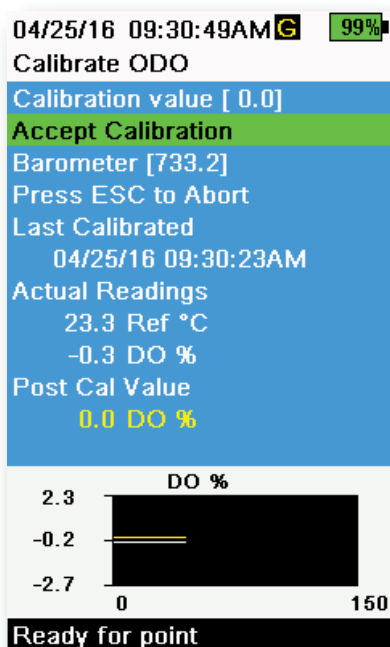

Figure 53 Calibrate ODO zero point
3. Observe the actual measurement readings for stability (white line on graph shows no significant change for 40 seconds), then select **Accept Calibration** (Figure 53). "Calibration successful!" will be displayed in the message area.